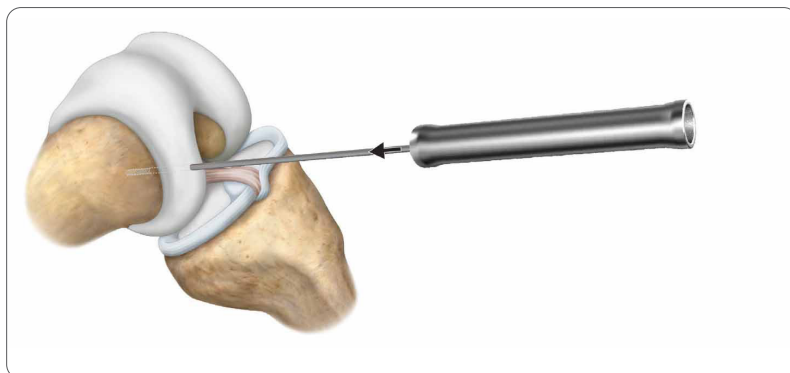

Figure 4
4. Place the Drill Sleeve over the K-wire (**Figure 4**).